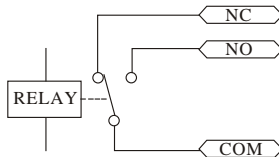

Figure 2
2. Electric lock interface (See Figure 2)